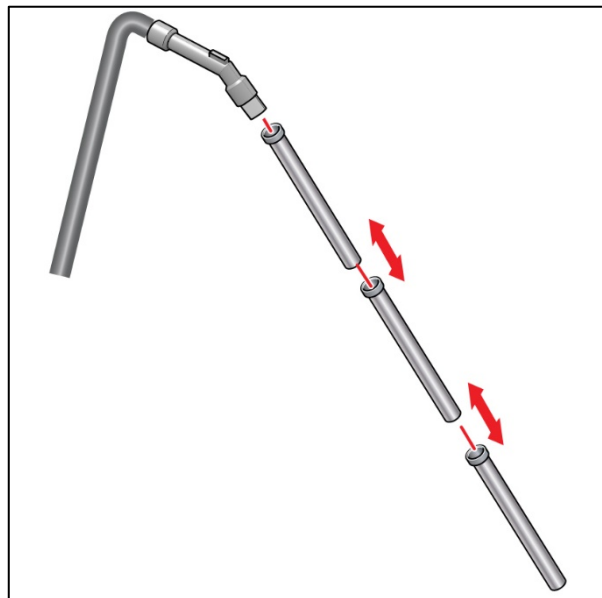

Figure 16
1. Add or remove a section of the wand (Figure 16, pos 1) to adjust the length